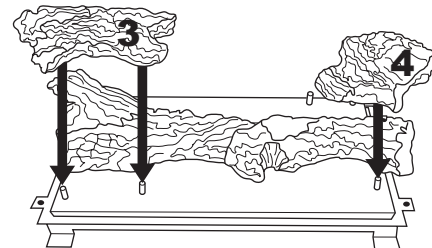

Figure 44 - Installing Logs No. 3 and No. 4
3. Place logs #3 (left front log) and log #4 (right front log) onto pins as shown in Figure 44.